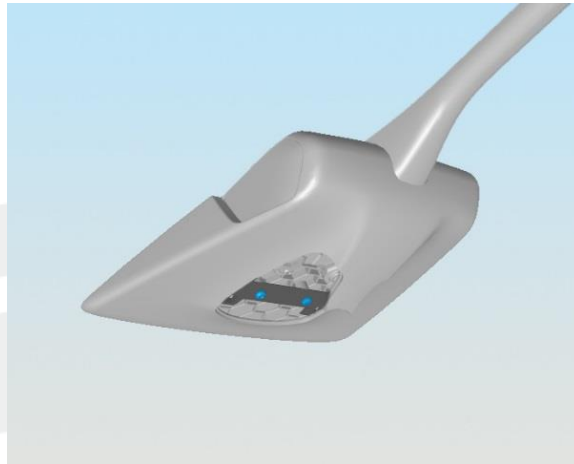

Figure 1
2. Remove the screws that attach the upper mirror cover to the triple camera windshield bracket (Figure 1).
17. Install the screws that attach the upper mirror cover to the triple camera windshield bracket (Torque 0.8 Nm) (Figure 1).